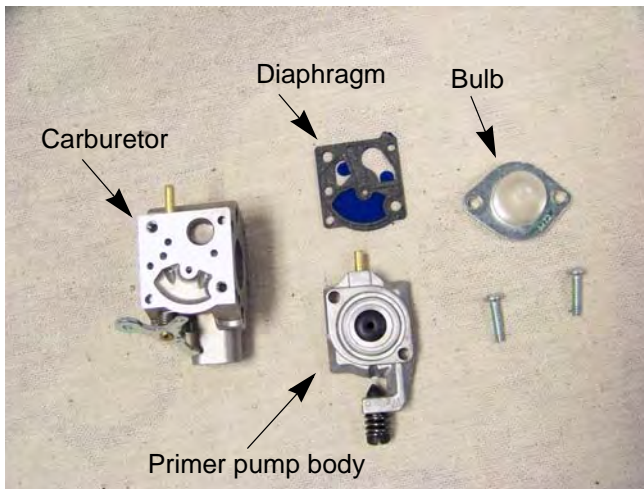

Figure 5.16
2. Separate the primer pump and the bulb assembly, placing each part on the bench in the order they came apart. See Figure 5.16.